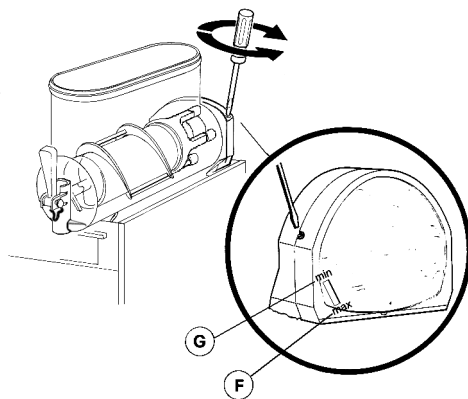

figure 3
- 1 - **Granita viscosity adjustment:** proper Granita viscosity is factory preset. To change the viscosity, if needed, use a standard screwdriver to turn the adjustment screw located in the rear wall of each container as follows (see figure 3):